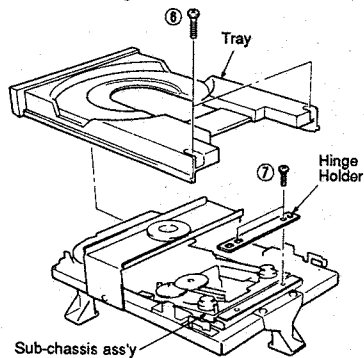

Fig. 2
- Remove 2 screws (⑥) in Fig. 2.
- Remove 2 screws (⑦) and remove the hinge holder in Fig 2.